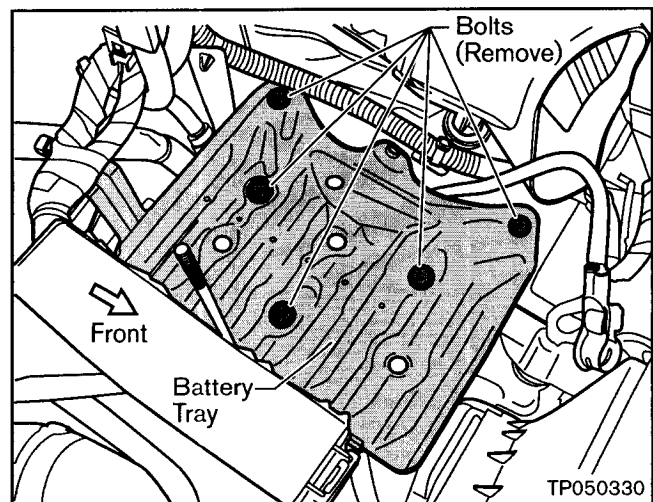

Figure 11
- Remove five Bolts that secure the Battery Tray to the vehicle (see Figure 11).